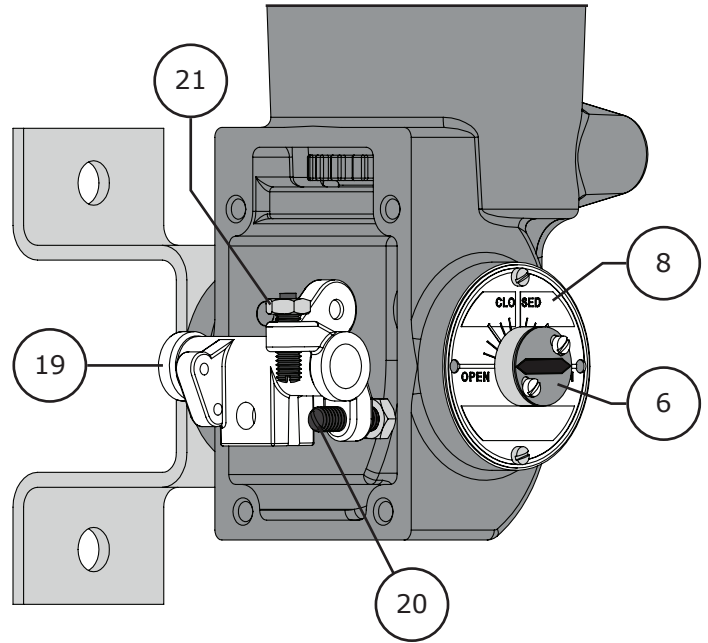

Figure 21 Lever Assembly / Installation
- 1 If the set screws (Key 20) and jam nuts (Key 21) were removed from the lever (Key 19), re-install them as shown in Figure 21.
- 2 Place the lever assembly (Keys 19, 20, & 21) inside the actuator housing (Key 1) as shown in Figure 21.